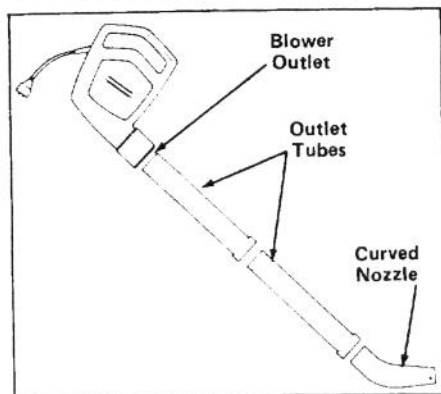

Fig. 1
1. Thread outlet tubes together with a twisting motion (Fig. 1).
2. Thread assembled tubes into blower outlet (Fig. 1).